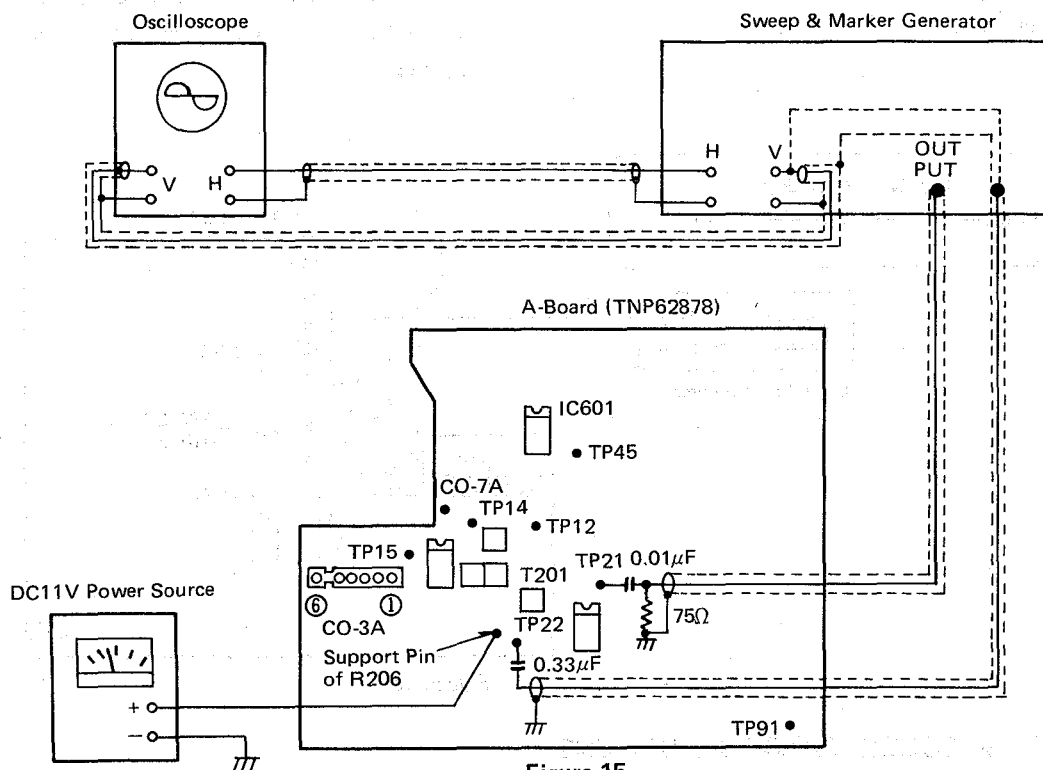

Figure 15
1. Set up sweep and marker generator, power supply and oscilloscope as shown in figure 15.